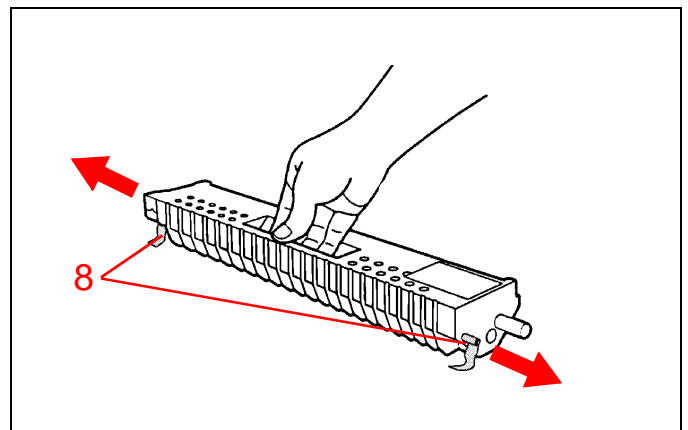

Figure 36
- See Figure 36. Remove the two retaining pins from the ends of the cartridge.